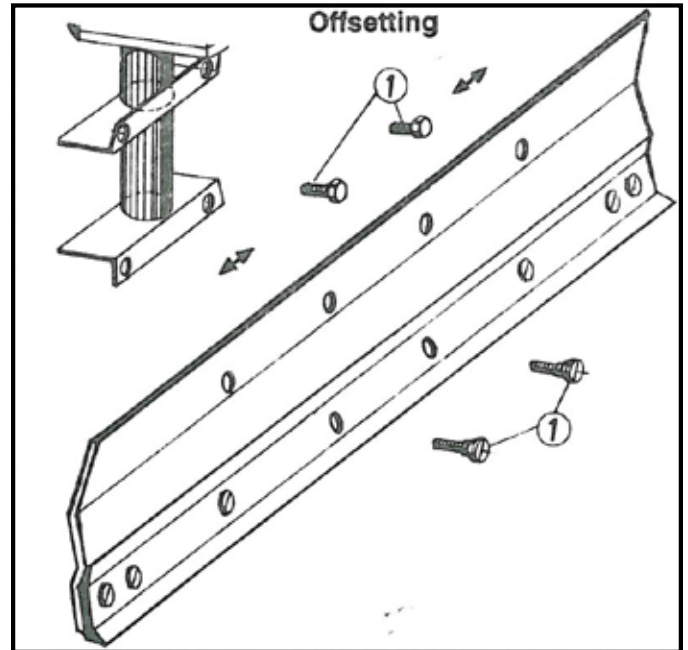

FIGURE 4
The blade may be offset 12" either to the right or left. To offset the blade to the right, use two left holes; and to offset the left use two right holes. Remove the four bolts (1) from main frame and relocated moldboard either right or left 12" to align with existing holes. Torque 1/2 nuts to 55 foot pounds and 5/8 nuts to 170 foot pounds. (Figure 4)